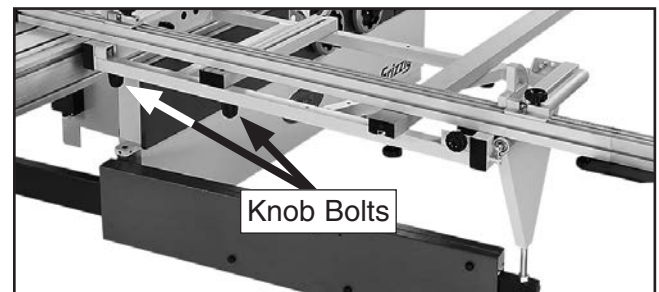

Figure 123. Locations of knob bolts.
4. Install knob bolts shown in **Figure 123**.